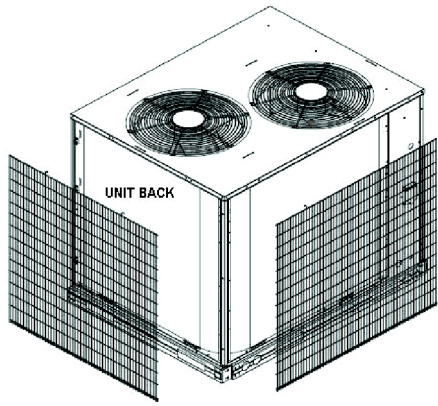
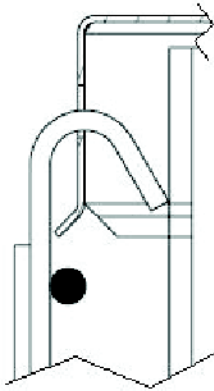

Fig. 1 - Typical 2-Sided Coil Grille Installation
Fig. 2 - Hook into Top Cover
2. Insert the hooks at the top of the grille (See Fig. 2) into the holes provided on the top cover of the unit. See Fig. 1 - 6 for locations, depending on the grille currently being attached.
4. Secure the grille by using the screws removed in Step 3 to attach the bottom of the grille to the base pan in those positions. See Fig. 1 - 6 for locations, depending on the grille currently being attached.